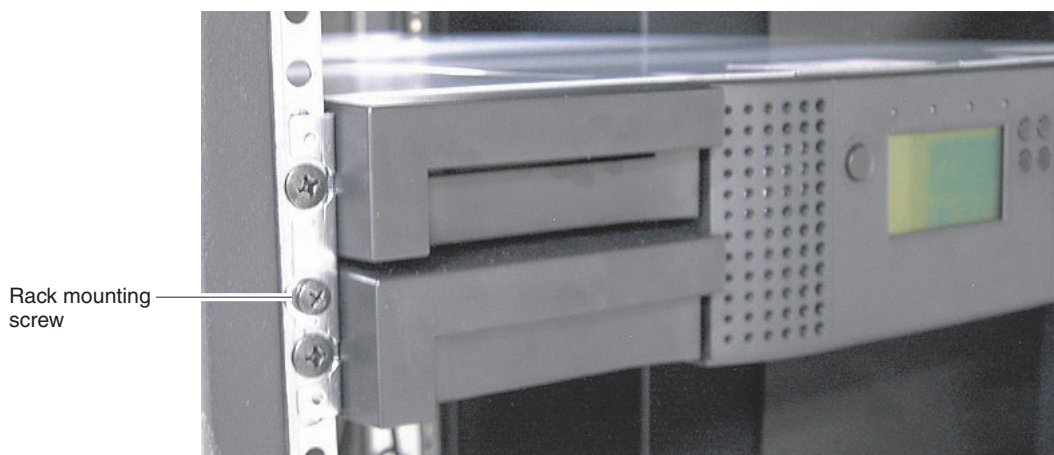

Figure 5. Secure the autoloader to the rack
- h. Secure the autoloader to the rack as shown in Figure 5.